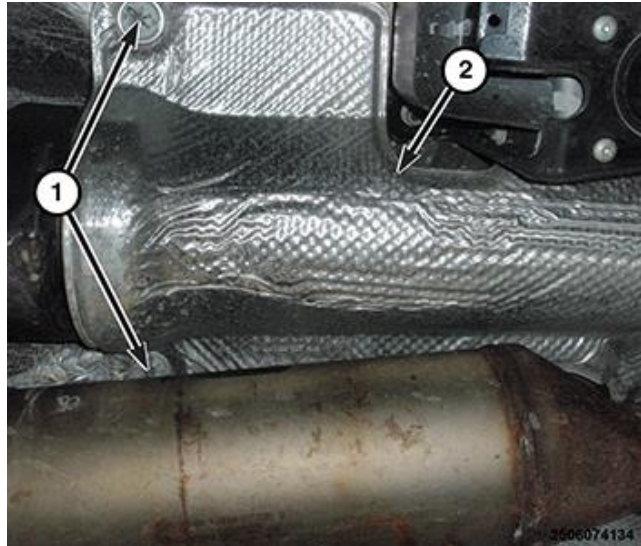

Figure 2 – Driveshaft Heat Shield
7. Remove the fasteners (1) and the driveshaft heat shield (2) (Figure 2).